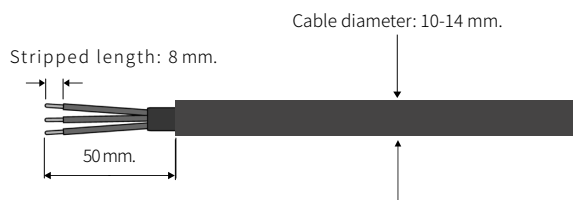

Fig. 28. Cable stripping.
- According to the above table, select a suitable cable, remove the insulation sleeve from the AC cable about 50 mm, and remove the insulation from the end of the L/PE/N cables about 8 mm, as shown in Fig. 28: